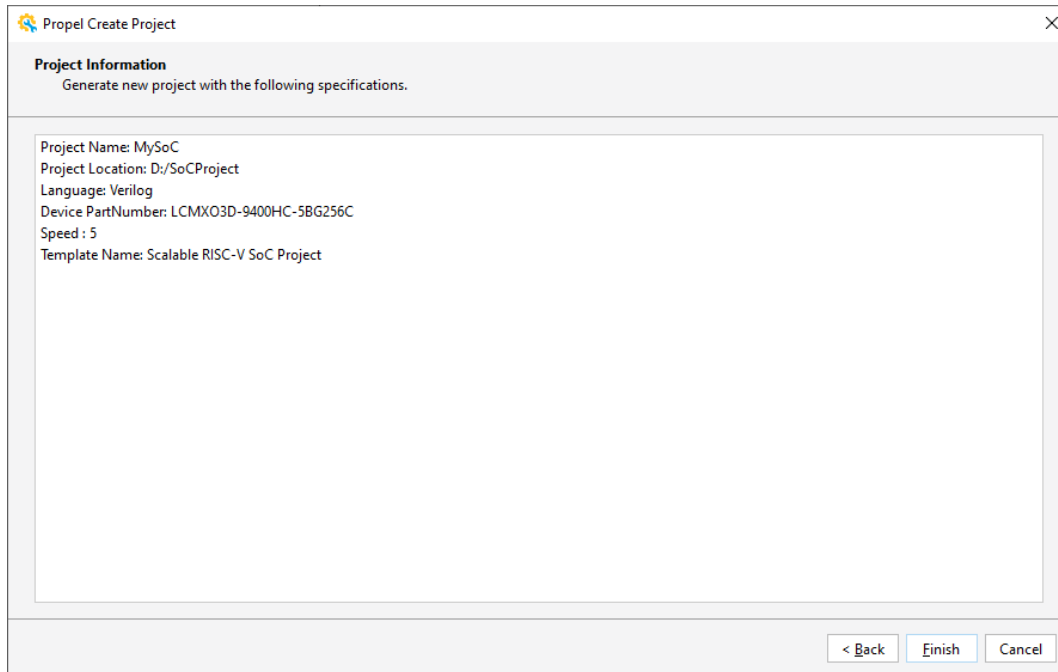

Figure 6.9. Project Information
7. Click **Next** to view the project information (Figure 6.9).